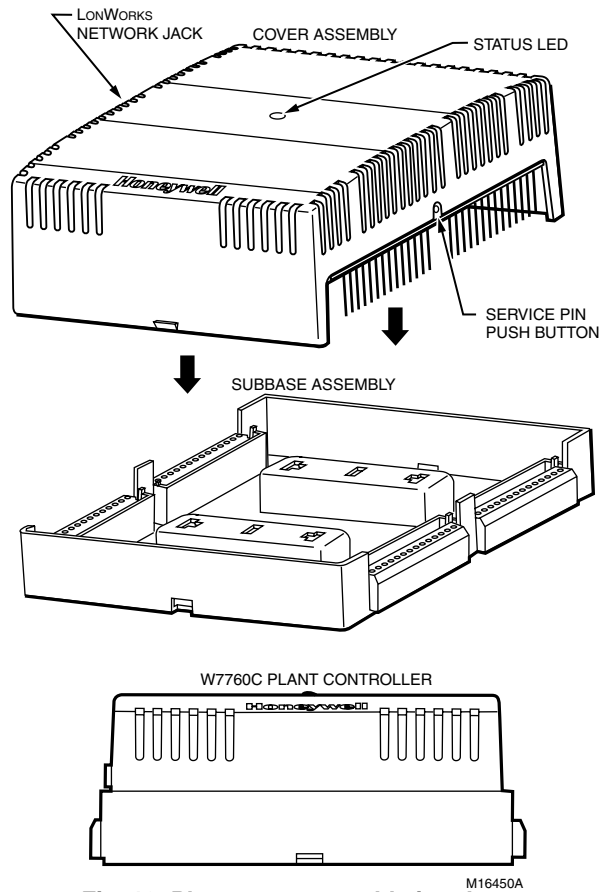

Fig. 12. Plug cover assembly into base.
2. Plug the cover assembly into the subbase to activate the W7760C. See Fig. 12.
The W7760C Plant Controller has a status LED on the front cover of the device. See Fig. 12. The LED provides a visual indication of the plant controller status. When the plant controller receives power, the LED appears in one of the following states: